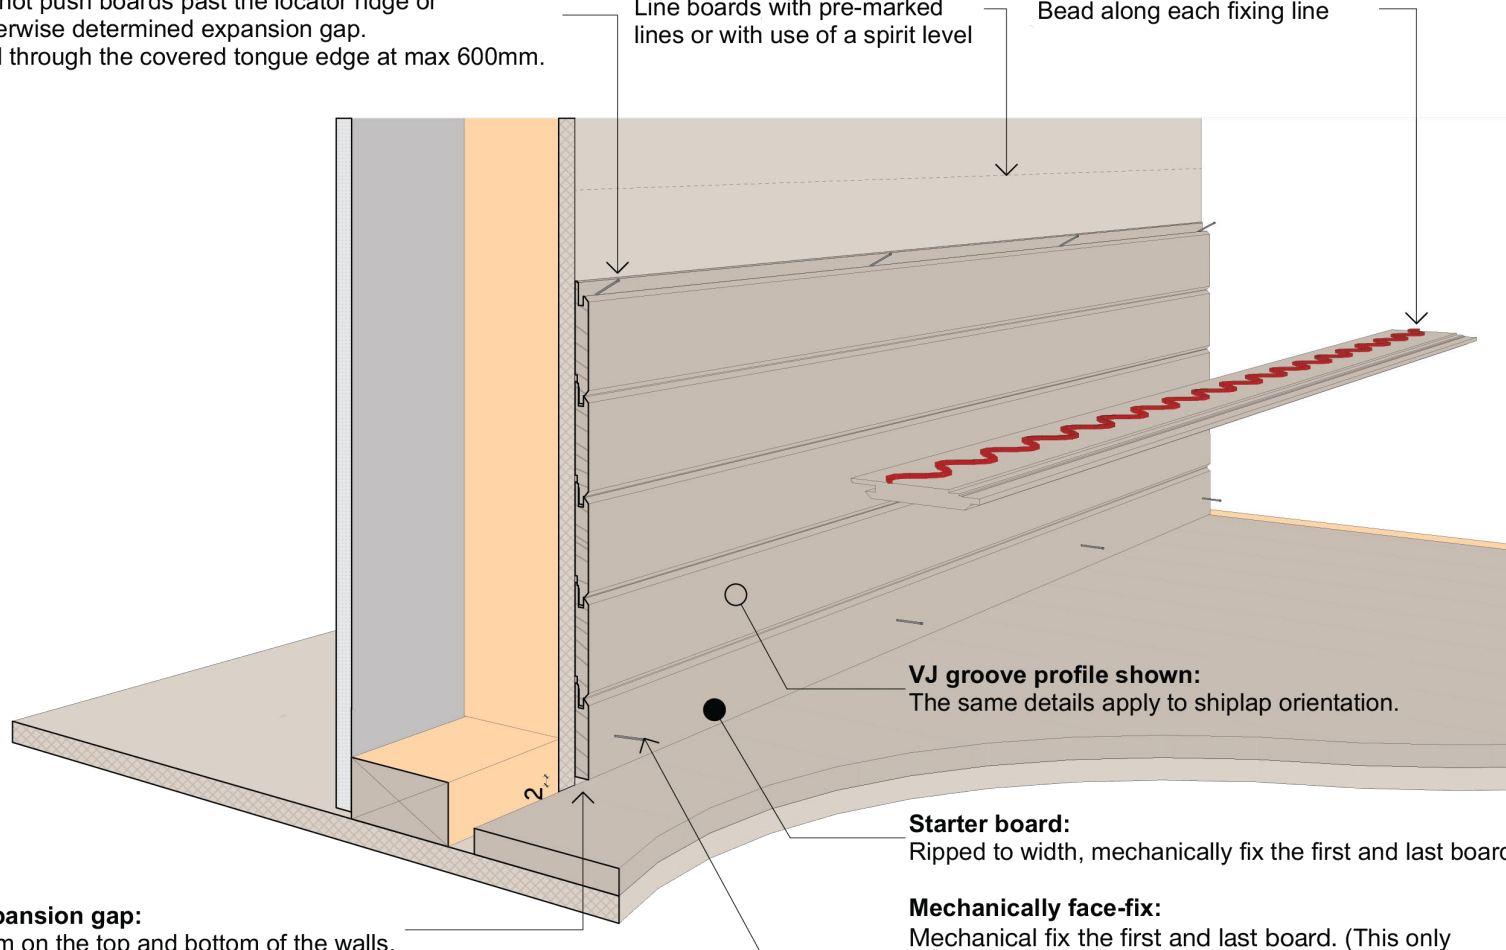

Figure 7 – Vertical on battens
- d. Mechanically face fix first and last boards into position (*see figure 7*).
- ii. On battens/studs: apply a bead along each fixing line (*see figure 7*).